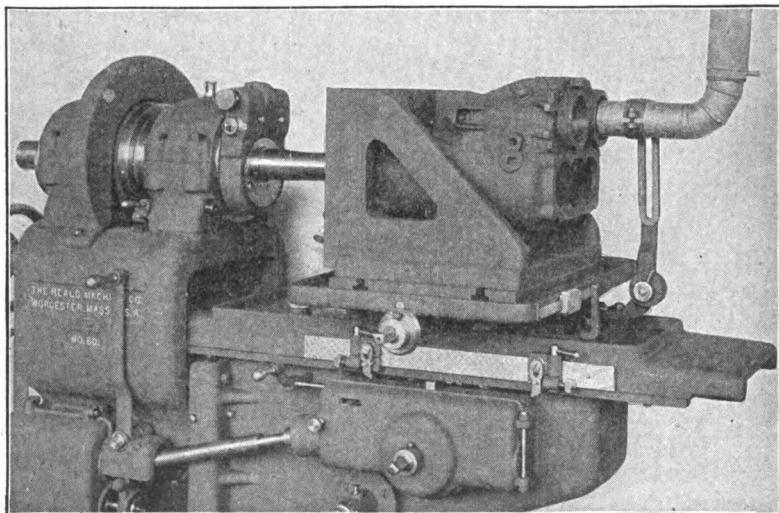

Fig. 31. Grinding Engine Cylinders
**Grinding Out Cylinder Bore.** As the usual amount of metal which would be removed from a worn cylinder would not exceed a few thousandths of an inch, grinding should be the process used. Other processes, except possibly lapping or hand grinding, are too inaccurate. For this reason, a typical grinding set-up is shown in Fig. 31. This shows the cylinder bolted against a large angle plate, attached to the grinding machine table. The angle plate is drilled out to take the bolts which hold the cylinder casting to the crankcase. When bolted up for work, the air hose is connected up through the cylinder head to blow out the dust or particles ground off. Not more than three or four thousandths of an inch should be taken off at one time; if more must be removed, a second operation over the surfaces is necessary.